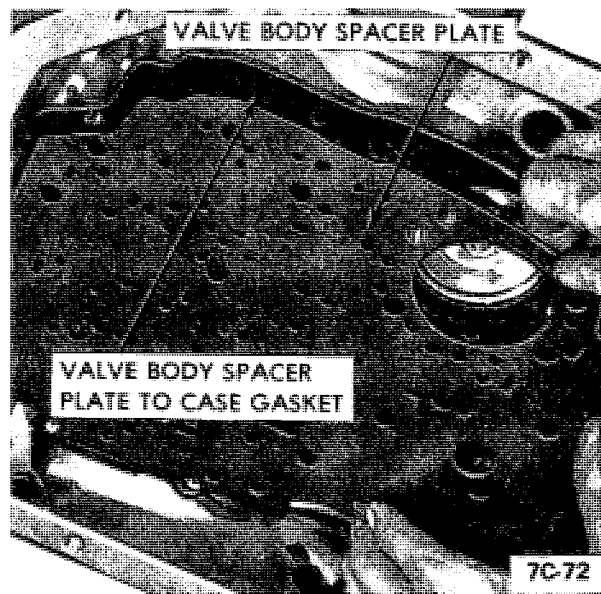

Figure 7C-179
3. Install oil pump pressure screen in the oil pump pressure hole in case. Ring end of screen must be installed toward case face. See Figure 7C-177. (*Clean before installing.*)